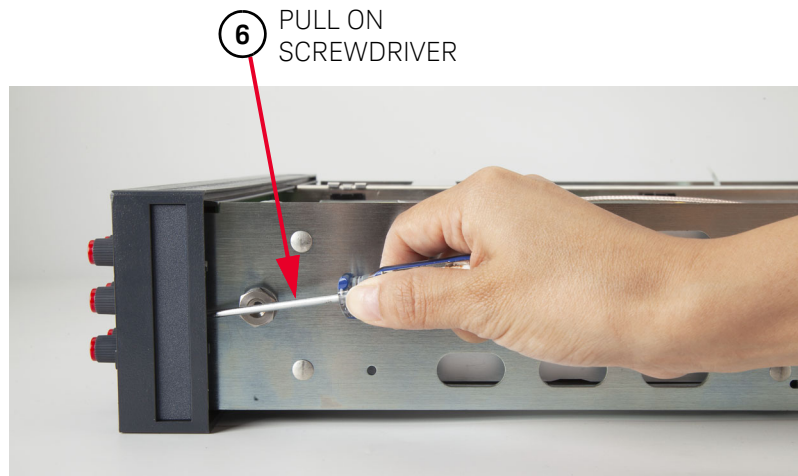

Figure 3-18 Remove front panel assembly
- 7 Refer to **Figure 3-18**. Insert a large screwdriver between the Front Panel assembly and the chassis, as shown in the figure. With the screwdriver, carefully pry the left side of the Front Panel assembly loose. Move the front panel out of the chassis until it unlocks from the chassis. Do not move it any more, or it may break.